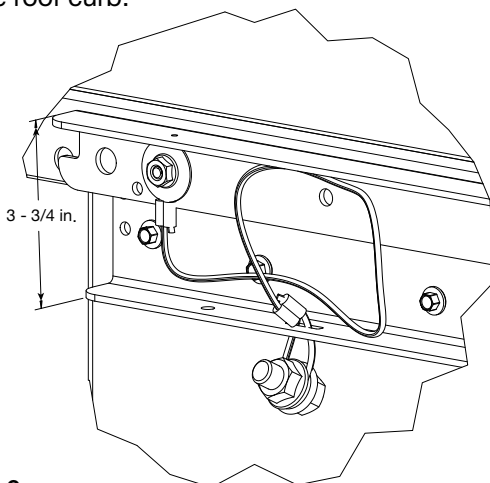

Figure 6
12. Referring to Figure 6, remove the flange nut on the top hinge bracket furthest from the hinging pivot, place one loop of the steel cable over the weld stud, add the 5/16 in. flat washer, then reinstall the flange nut tightly on the weld stud. Cut the zip ties holding the cable in a coil.
13. Install the other end of the steel cable into the slot in the bottom hinge bracket and secure in place using the 1/2 in. - 13 x 1 in. hex bolt and 1/2 in. flange nut as shown in Figure 6.